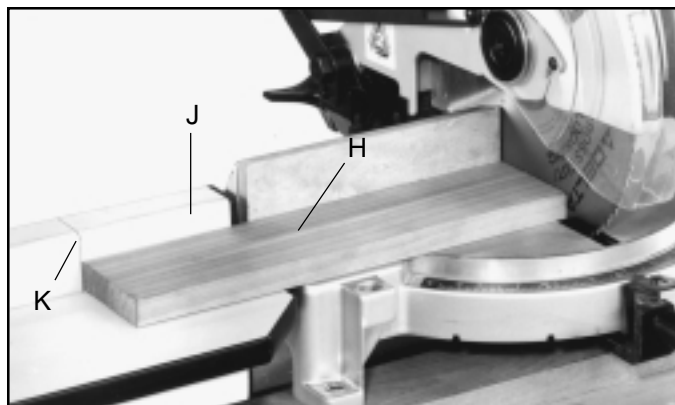
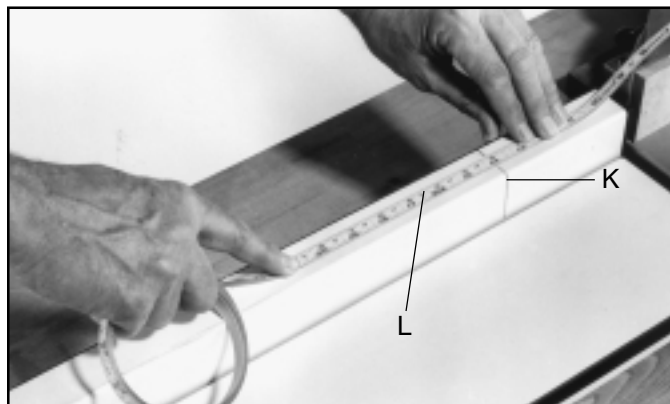

Fig. 10
Fig. 11
1. Make a 90 Degree straight cut-off on a workpiece (H) Fig. 10, as shown. Make certain that the workpiece (H) extends over onto the miter table (J). Without moving the workpiece (H), make a mark (K) on the miter table fence at the end of the workpiece. Extend the mark (K) to the top of the miter table fence as shown.
2. Measure the length of the cut-off workpiece (H) Fig. 10. Line up the mark on the measuring tape with the mark (K) Fig. 11 on the miter table fence that corresponds to the length of the cut-off workpiece. In this case, the length is 14 inches.
3. Trim the ends of the tape to the desired length and remove the backing from the tape. Carefully install tape (L) Fig. 11, to the top center of the miter table fence, lining up the marks determined in **STEP 2**.